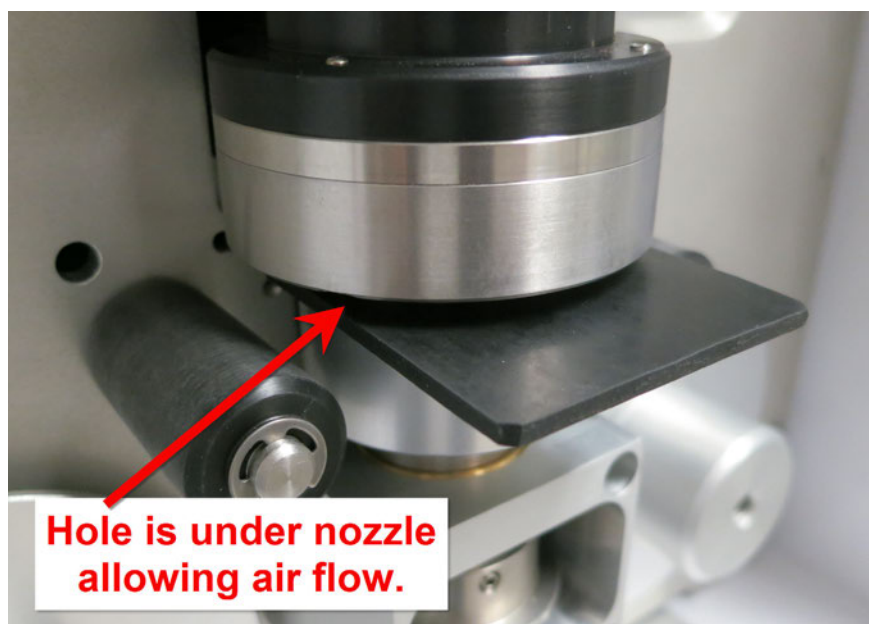

Figure 6-6 Nozzle Sealing Tool Upper System Test Configuration
3. Insert the Nozzle Seal Tool With Hole between the nozzle and vane. Note the proper alignment shown in Figure 6-6. The rubber will guarantee a positive seal at the nozzle/vane interface, regardless of any debris or imperfections.